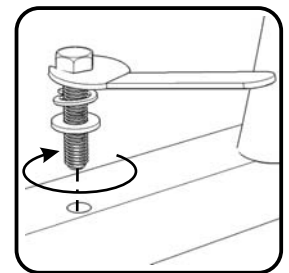

Figure 2
Attach Seat (A) to unit with Flat Washers, Spring Washers and Bolts, tightening bolts only halfway. (See Figure 2)